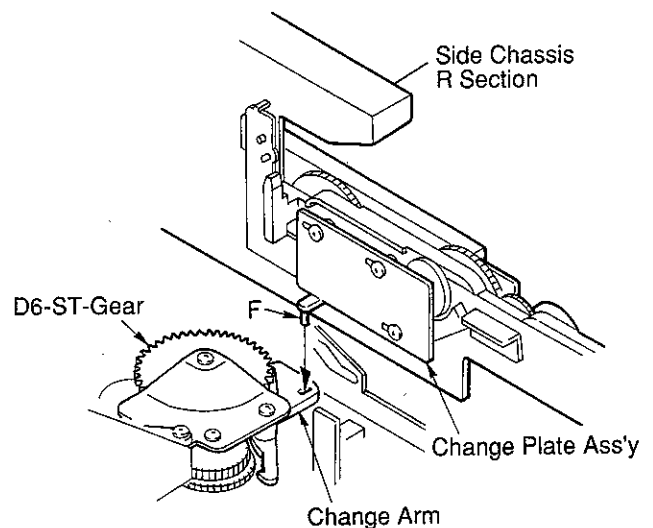

Fig. 2.9.3
- (1) Push the Change Arm against the D6-ST-Gear so that they are engaged each other. Refer to Fig. 2.9.3.
- (2) Place the Side Chassis R Section so that the pin "F" of the Side Chassis R Section is inserted into the hole in the Change Arm as shown in Fig. 2.9.3.